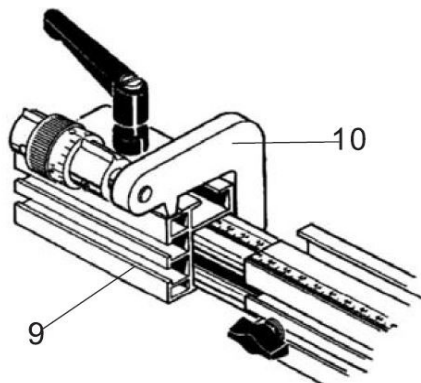

Fig. 20: Fitting the stop rail
Step 3: Tighten the screw (item 9, Fig. 20) on the axis of the stop lever (item 10, Fig. 20) and make sure that the stop lever does not drop down when folded.